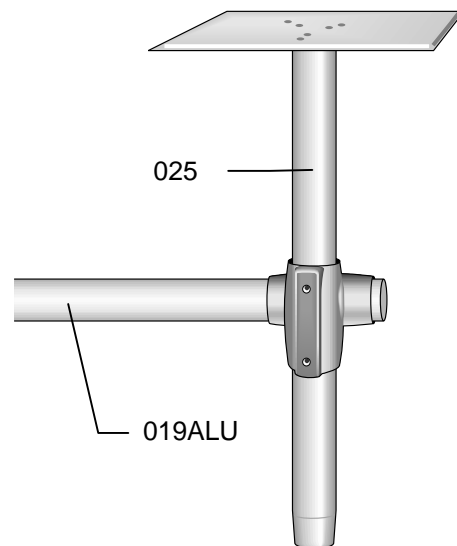

FIGURE 2.2-5. 025 Pyranometer Crossarm Stand
1. Attach the LI2003S Leveling Fixture to the 025 Pyranometer Crossarm Stand using the three screws provided (see Figure 2.2-5).